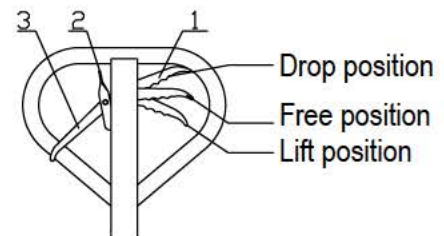

Fig. 5
- 4.1 After the truck is assembled, try to rock the hand grip and operate different positions of control handle knob 1 to examine the lifting, free position and dropping and check that whether the different positions are normal or not. See fig 5.
- 5.4 See fig 5, when hand knob 1 is placed on the free position, the truck will travel. At this time, if you rock the hand grip, the truck will neither lift nor drop. Then, you can use the truck to move the cargo.
- 5.5 See fig 5, when the hand knob 1 is placed on the drop position, truck forks will drop. At this time, the truck forks will drop automatically.
- 5.6 See fig 5, when the hand knob 3 is placed below, the truck will be in a state of free walking.
- 5.7 See fig 5, when the hand knob 3 is placed above, the truck will be in a state of brake.
- 5.8 See fig 5, hand knob 2 is used for release brake.